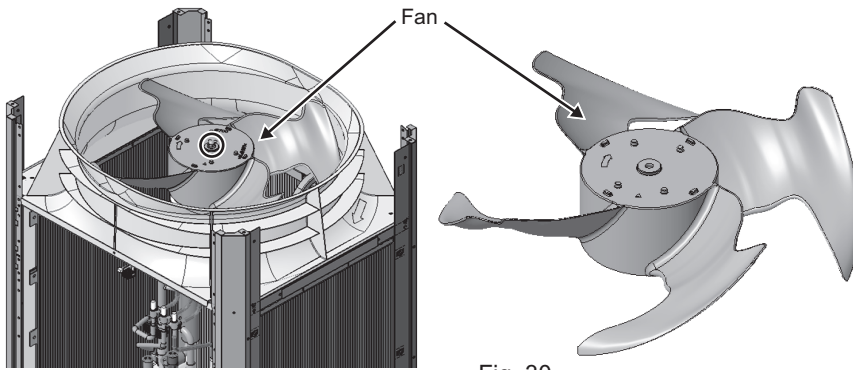

Fig. 30
(7) Remove the fan. (One nut: Fig. 30)